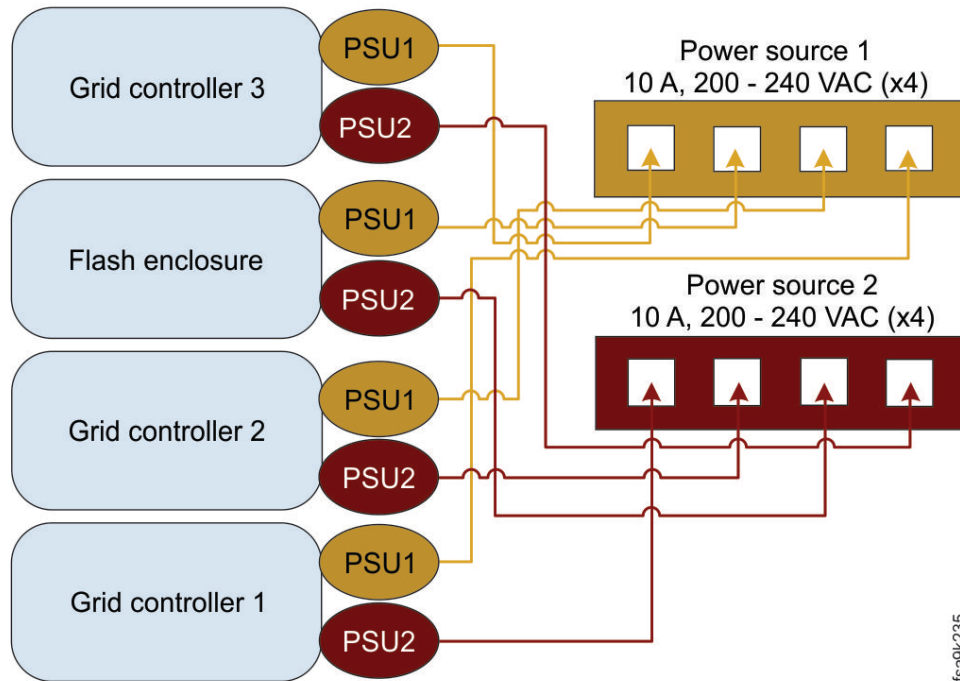

Figure 11. FlashSystem A9000 power sources
Two independent customer-supplied power distribution units (PDU) are required for the two power cords that are needed by each component in the system (total of eight outlets, four per PDU), as depicted in Figure 11 on page 23.
- To eliminate a single point of failure, the PDUs must be independent. This means that each PDU must use a separate power source and each power source must have its own wall circuit breaker (see Figure 11 on page 23).
A FlashSystem A9000 system requires two independent power sources, with minimum four (4) 10 A, 200 – 240 VAC outlets (as seen in Figure 11 on page 23).